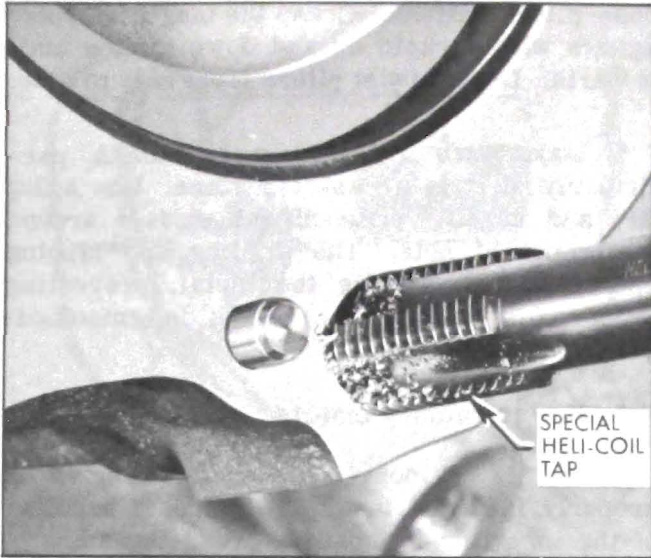

Figure 2-62—Tapping New Thread
2. Cut new threads. See Figure 2-62.